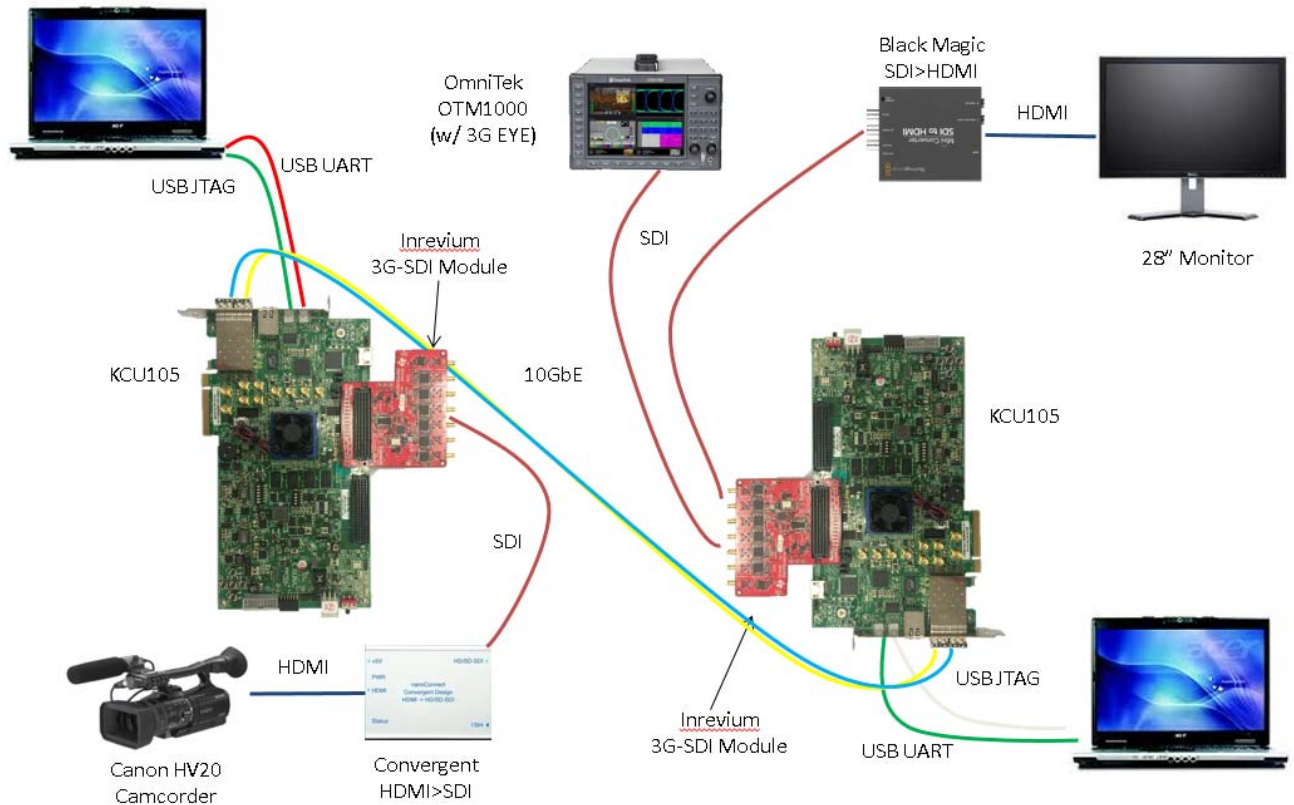
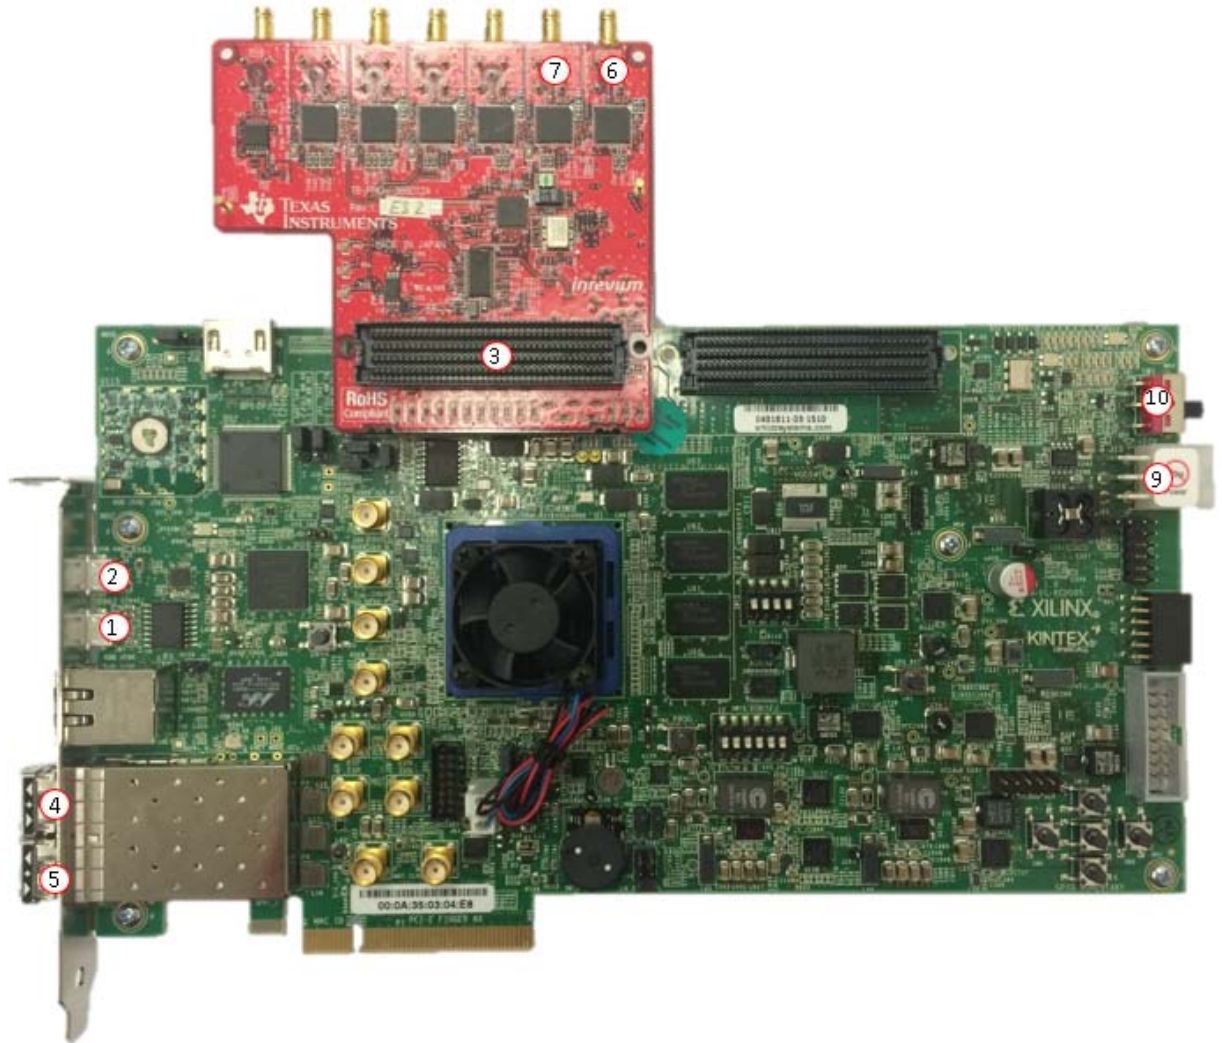

Figure 10: SMPTE 2022-5/6/7 Demo System Setup
Figure 11: KCU105, and TB-FMCH-3GSDI2A Boards
This reference design runs on the KCU105 and TB-FMCH-3GSDI2A boards shown in Figure 10 and Figure 11.
In these instructions, numbers in parentheses correspond to callout numbers in Figure 11.
1. Select **Xilinx Tools > Program FPGA**. See Figure 11.